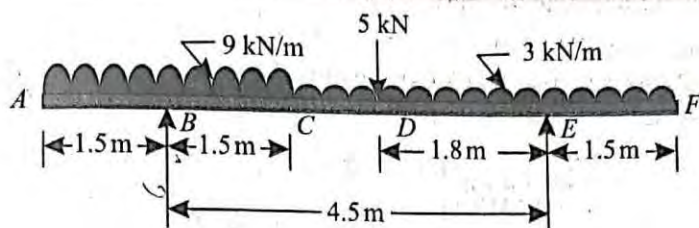

Fig. 9.15.
5. A beam  $ABCDEF$  of 7.5 m long and span 4.5 m is supported at  $B$  and  $E$ . The beam is loaded as shown in Fig. 9.15.